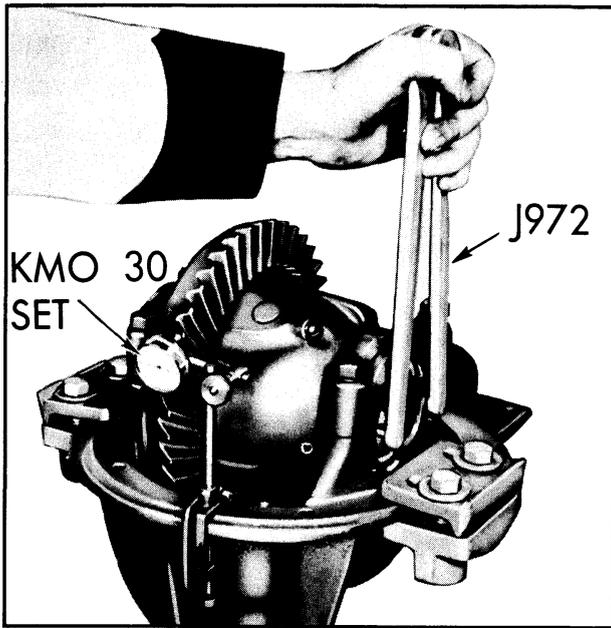

Fig. 6-34 Checking Backlash
5. Clamp indicator to differential carrier and check backlash between ring gear and pinion, using dial set KMO-30. (See Fig. 6-34). Backlash should be .004" to .008" minimum at closest point when checking two places on gear 180 apart. However, as much as .012" may be necessary in some cases to correct tooth contact for noise.